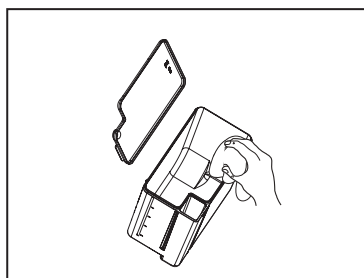

Fig.5
5. After rinsing or washing, dry the tank and lid (See Fig.5).
5. Open the door and partially remove the milk tank from the Milk Master Pro (See Fig.5).